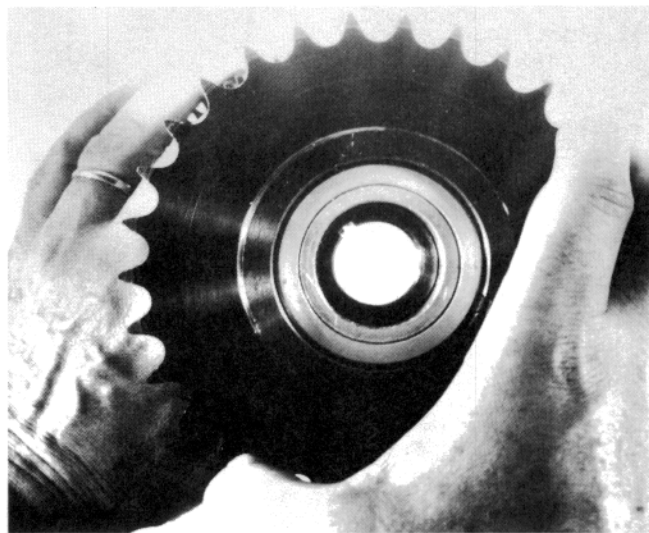

Figure 54 — Cocking Clutch Sprocket and Cocking Clutch Gear Separation
3.1.2 To remove the sprocket, set gear down on a flat surface and grasp the clutch sleeve and sprocket as in Figure 54. Now with the left hand rotating counter-clockwise and downward, use the right hand on the sprocket to pull up with a slight clockwise motion. **Note:** A burr may be left from removing the snap ring. It may help to remove the burr before disassembly.